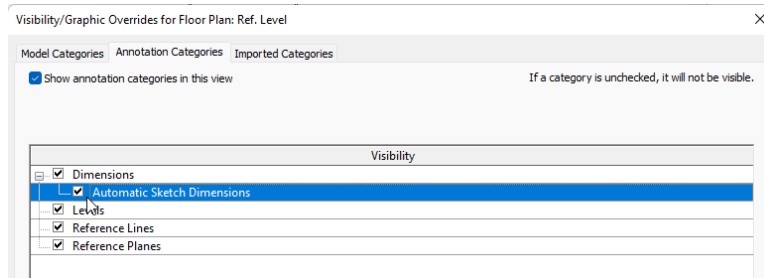

Figure 10—Enable the display of Automatic Sketch Dimensions in the Visibility/Graphics dialog
- ⇒ Beneath the Dimensions category, check the Automatic Sketch Dimensions checkbox (see Figure 10 above) and then click OK.